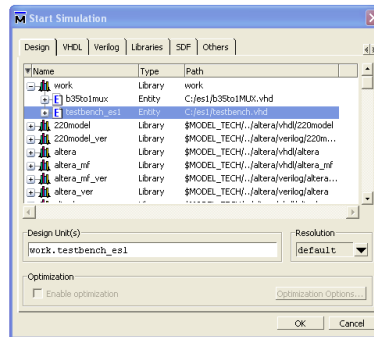
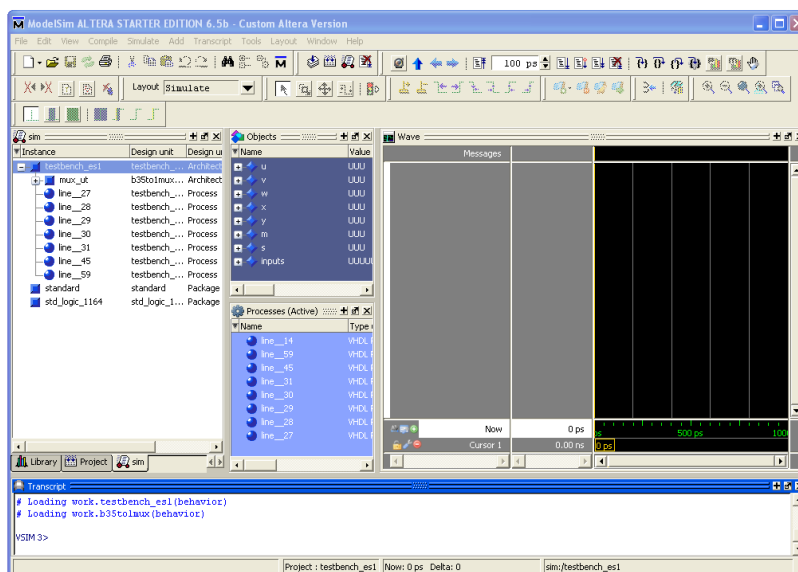

Figure 12 – Start Simulation window.
Figure 13 – Modelsim window after simulation load.
7. Run the simulation. Make sure once again you added all the files to the project. If some unit is not added, compilation is run with any error but the simulation cannot be run since one or more modules are missing. To run a simulation you can select **Simulate > Start Simulation...** (Figure 12) or alternatively click on the *Library* tab, expand the first entry *work* and finally double click on the name of the testbench entity that is *testbench\_es1*. For this time leave default simulator resolution. After that the system should give the output in Figure 13.
8. Now that the design has been loaded, you need to select the waveforms being added for view. If the design is not too big, just add all the waveforms in the testbench. Type `add wave *` in the transcript window. The main Quartus-II window should become as in Figure 13.